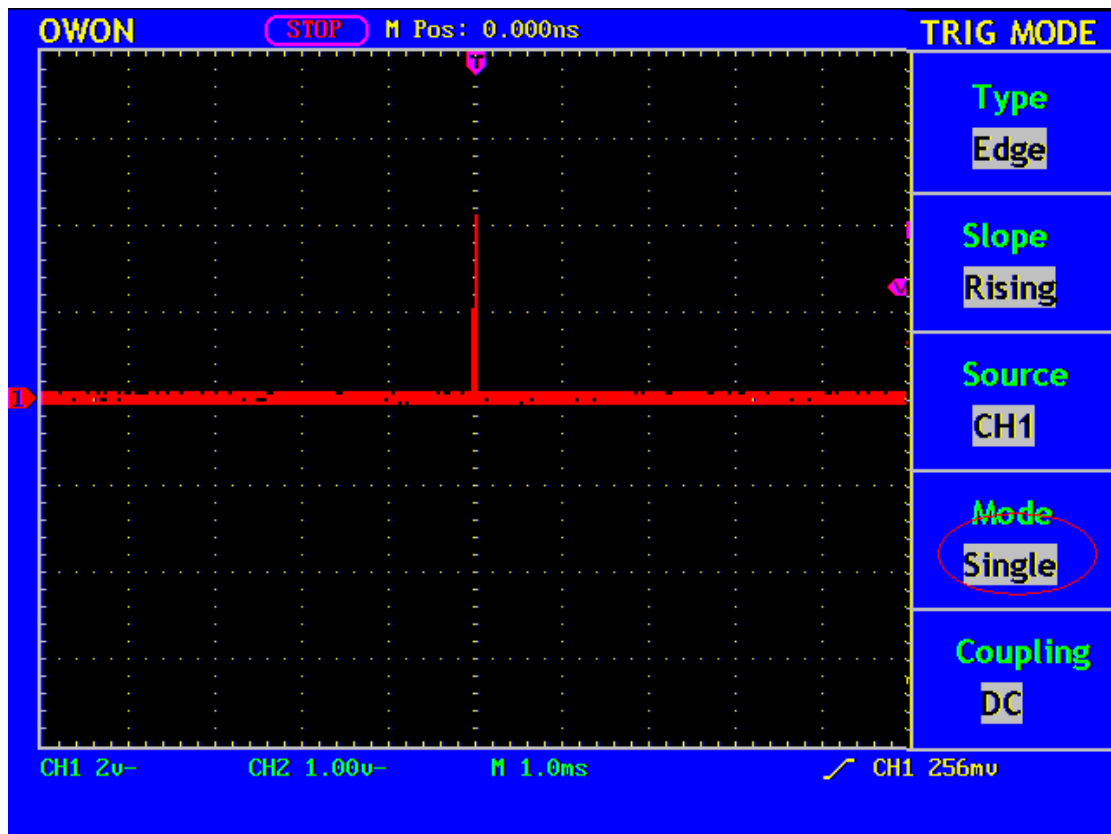

Fig. 55 Capture the Single Signal
10. If the **Trigger State Indicator** at the top of the screen does not indicate **Ready**, push down the **RUN/STOP** button and start **Acquire**, waiting the emergence of the signal in conformity with the trigger conditions. If a signal reaches to the set trigger level, one sampling will be made and then displayed in the screen. With this function, any random occurrence can be captured easily. Taking the burst burr of larger amplitude for example, set the trigger level to the value just greater than the normal signal level, and then press the **RUN/STOP** button and wait. When there is a burr occurring, the instrument will trigger automatically and record the wave form generated during the period around the trigger time. With the **HORIZONTAL POSITION** knob in the horizontal control area in the panel rotated, you can change the horizontal position of the trigger position to obtain the negative delay, making an easy observation of the waveform before the burr occurs (see Fig. 55).